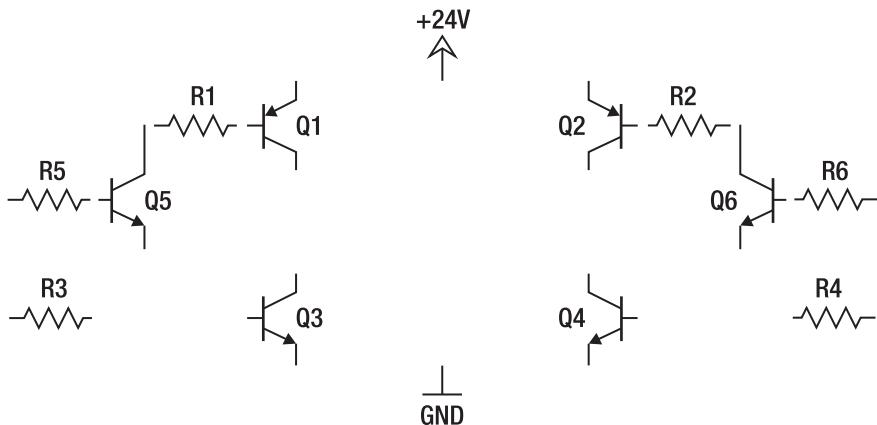

Figure 6-4. The current-limiting bias resistors are added to each transistor in the schematic, represented by components R1 through R6.
4. *Add resistors:* These resistors are used to limit the amount of current allowed to each transistor, so we will place one in front of each transistor base pin (the middle pin, as shown in Figure 6-4). The datasheet for the 2n2222 NPN transistor recommends between 1mA and 10mA of current to be applied to the base pin to get the most efficient current gain. To do this using the +5v produced from each Arduino output pin, we will use standard 1k-ohm resistors that will provide 5mA to each transistor base pin (Ohm's law).